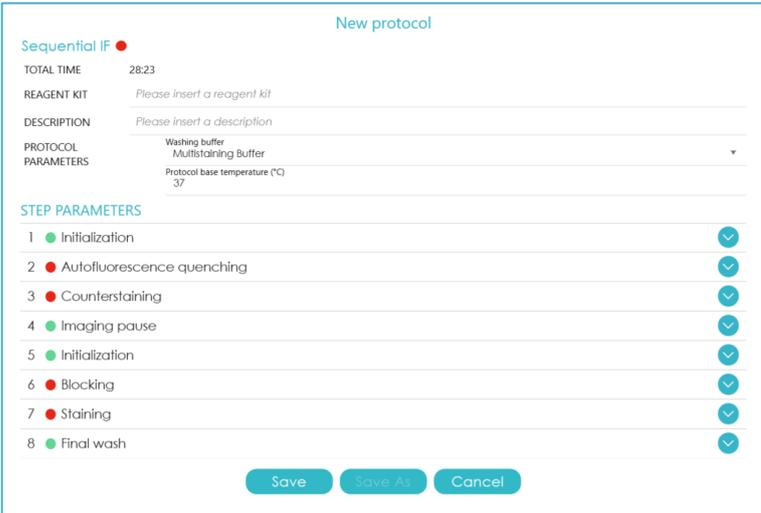

Figure 60) “New protocol” window for FS Sequential IF protocols
6. Click “OK”. The “New protocol” window will open (Figure 60) with the selected number of cycles.